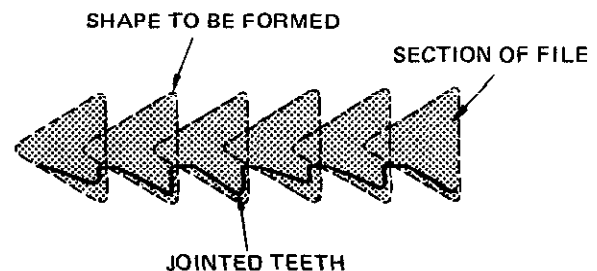

Fig. 7-15 Rough layout of new point positions.
5. The broken lines in figure 7-15 indicate the position of the file for shaping each tooth. Use a light controlled forward stroke to shape each tooth. Do not pull the file back through the teeth; rather, lift it clear after each forward stroke.